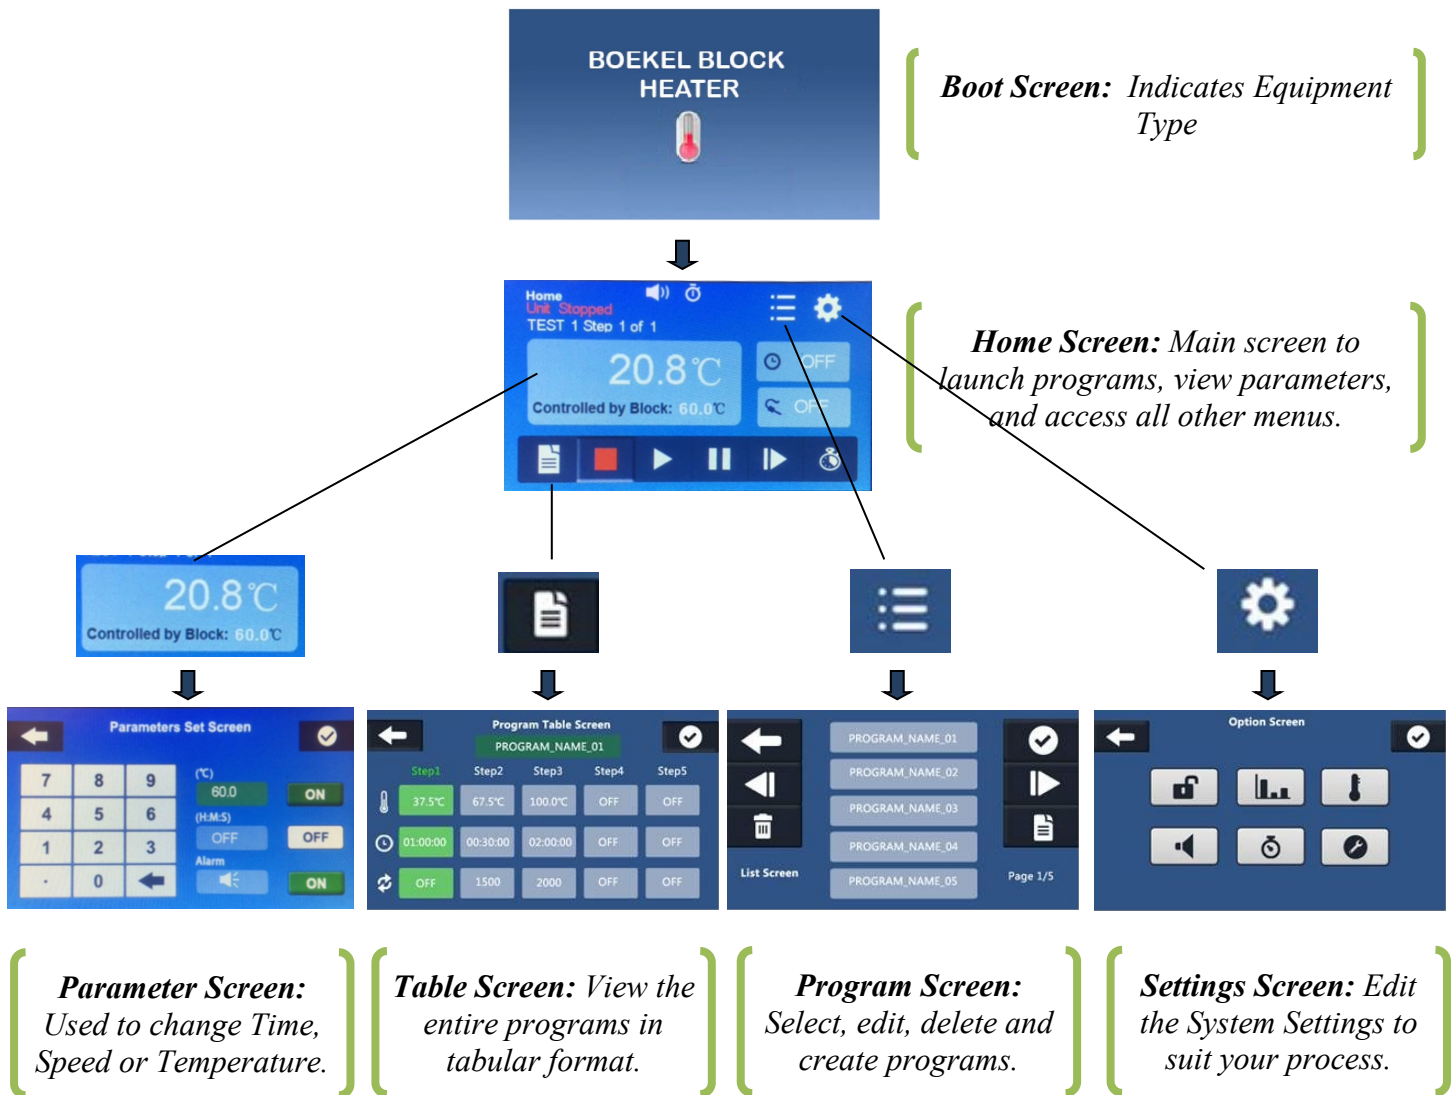

Figure 1
4.1 Home Screen Navigation (Figure 1) – Navigation and Screen Overviews